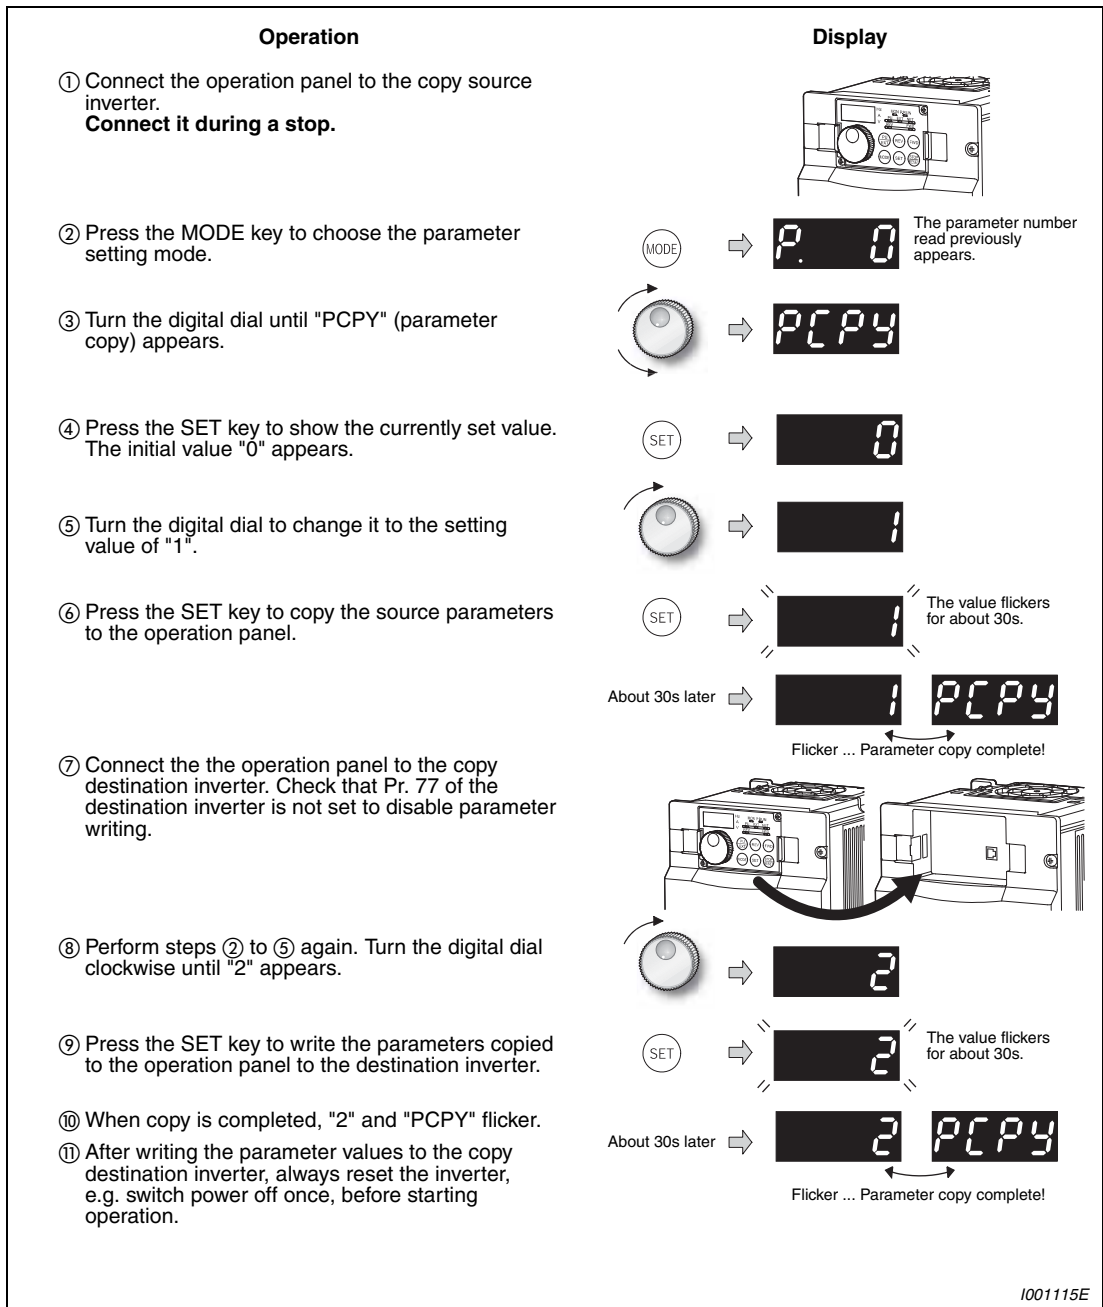

Fig. 5-11: Parameter copy
- A parameter read error has occurred. Perform operation in Fig. 5-11 from step ③ again.
- A parameter write error has occurred. Perform operation in Fig. 5-11 from step ⑧ again.